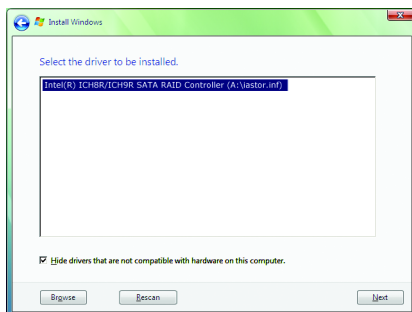

Figure 10
When a screen as shown in Figure 10 appears, select **Intel(R) ICH8R/ICH9R SATA RAID Controller^(Note)** and press **Next**.
(Note) The item displayed in Figure 10 will be shown as **Intel(R) ICH9 SATA AHCI Controller** when the SATA controllers are set to AHCI mode.